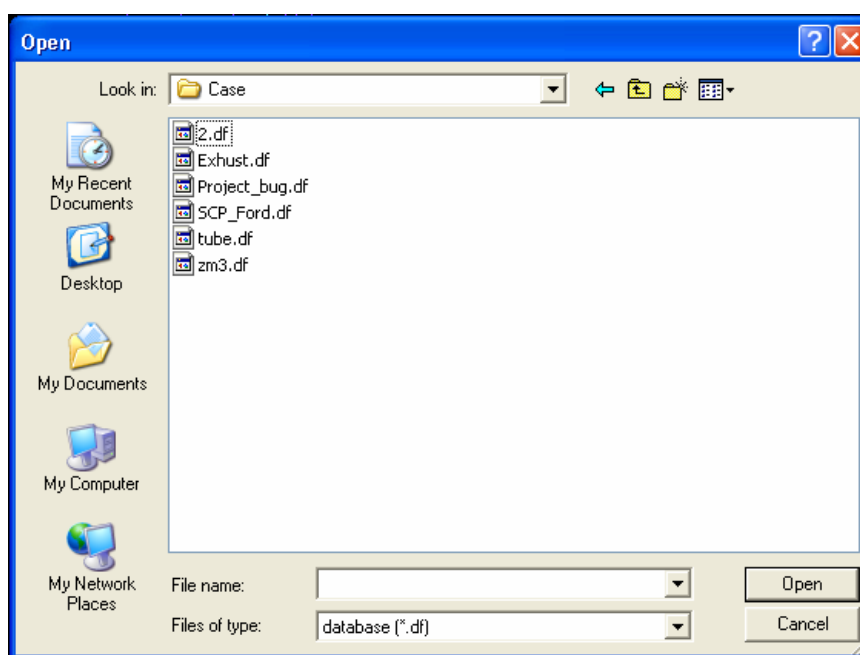

Figure 3.2.1 Open File window
- The user can open a eta/DYNAFORM database by selecting a file name in the open file dialog window. The OPEN DATABASE window is shown in Figure 3.2.1.